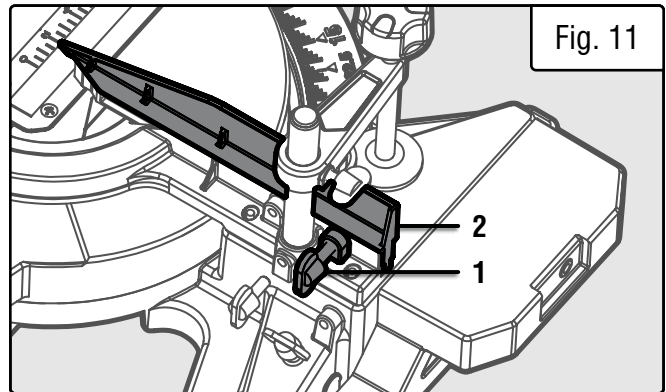
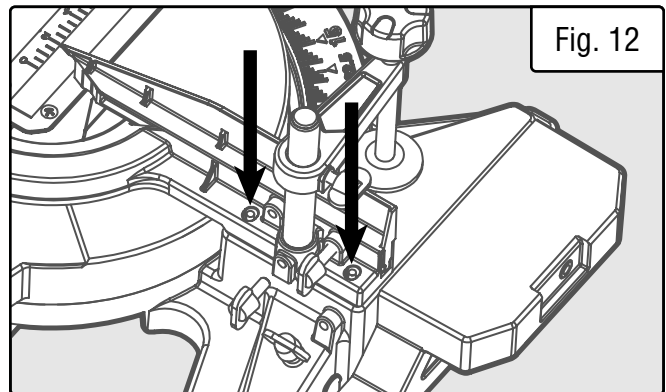

Fig. 11
Fig. 12
4. Fully loosen the two fence adjustment knobs (Fig. 11 - 1) and remove both fence guides (Fig. 11 - 2). There are four four socket-head screws (2 on either side) that hold the fence base to the saw base (Fig. 12). Using the included hex wrench, loosen these four screws and adjust the fence position until it is 90° with the blade. Tighten the four screws, replace the fence guides, and secure the fence adjustment knobs.